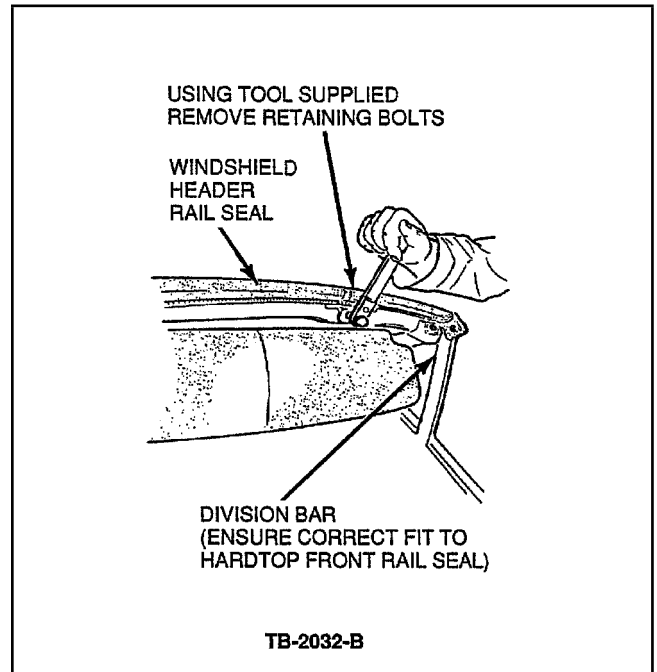

Figure 3 - Article 91-20-2
6. Using the tool supplied, remove the two retaining bolts from the windshield header, Figure 3.